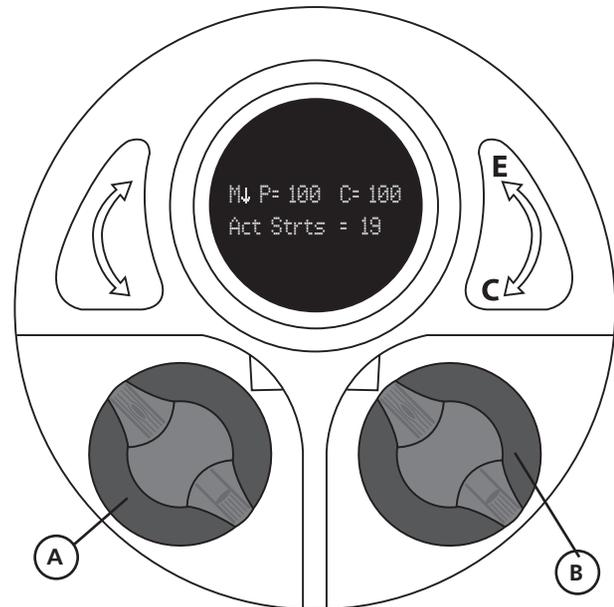

Figure 4.2.
The 'Standard Setup' is made via front cover-mounted local control knobs and a local display (VFD) on the outside of the actuator. See figure 4.2 for location of the local control knobs and display.
**Line 2** (Fig. 4.2. B).
**UP/DOWN SELECTOR KNOB** (Fig. 4.2. A).
**ENTER/CANCEL KNOB** (Fig. 4.2. B).